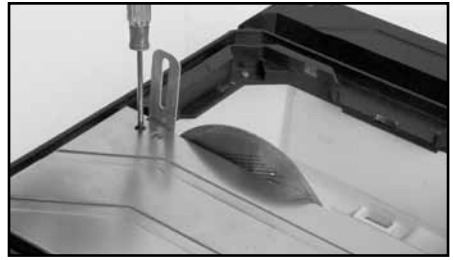

FIGURE 6
3. Insert the 2 screws and tighten (see FIGURE 6).